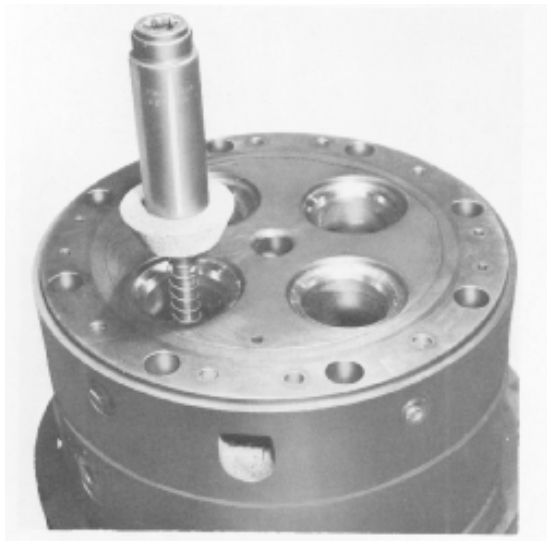

Fig. 2-13 - Lifting Spring Application
3. Install lifter spring over tapered pilot, Fig. 2-13, and place 30° grinding wheel and holder over the pilot and spring.